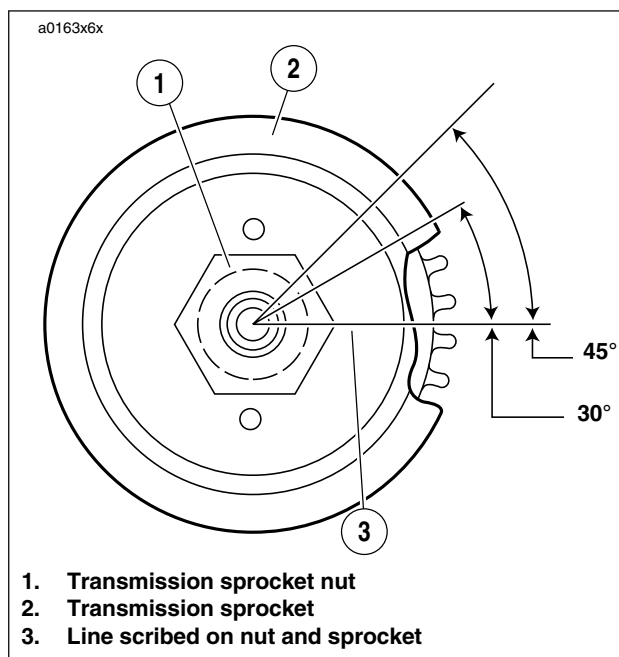

Figure 6-60. Aligning Transmission Sprocket
7. See Figure 6-60. Scribe a line on the transmission sprocket nut and continue the line on the transmission sprocket as shown.
- See Figure 6-60. If lockplate will not align with holes, tighten nut to 45° maximum.